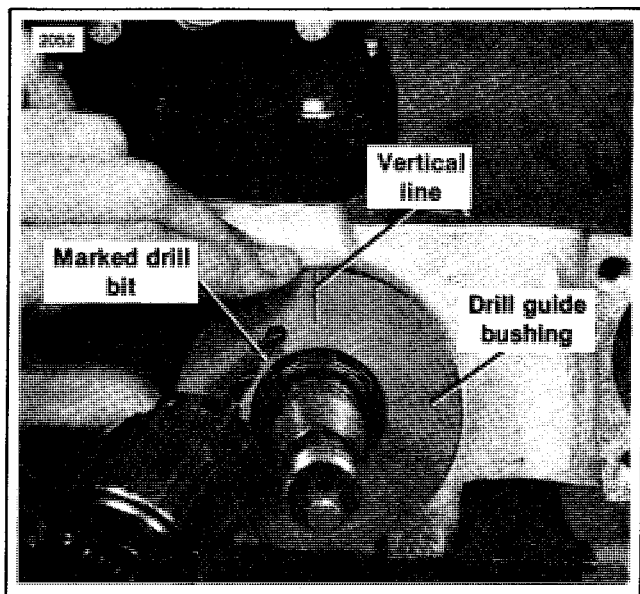

Figure 5. Drilling Procedure
16. See Figure 5. Position drill guide bushing over the main drive gear so that it rests against the face of the bushing in the transmission. Note the stamped line on the face of the drill guide bushing and position this so that it is positioned vertically upwards away from the transmission mounting base plate.